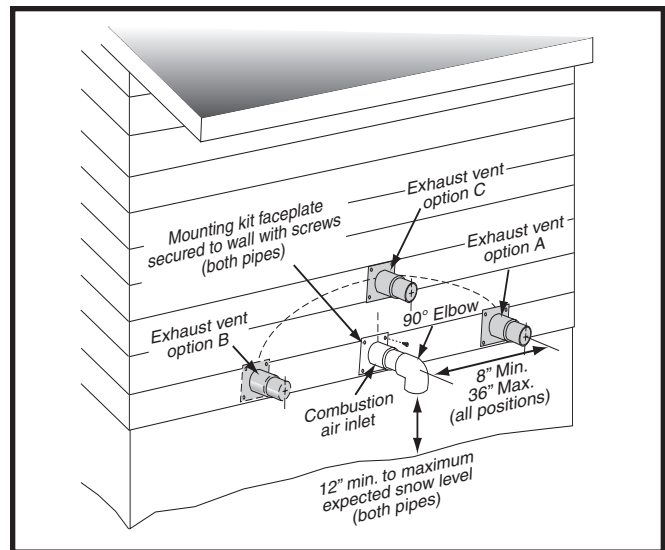
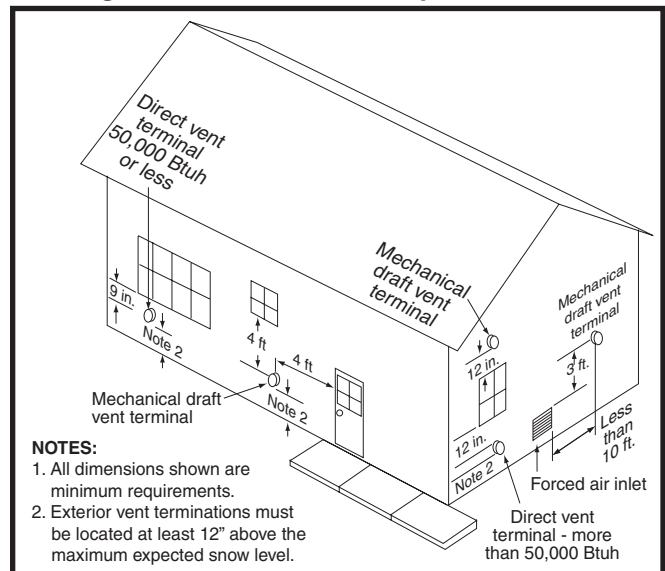
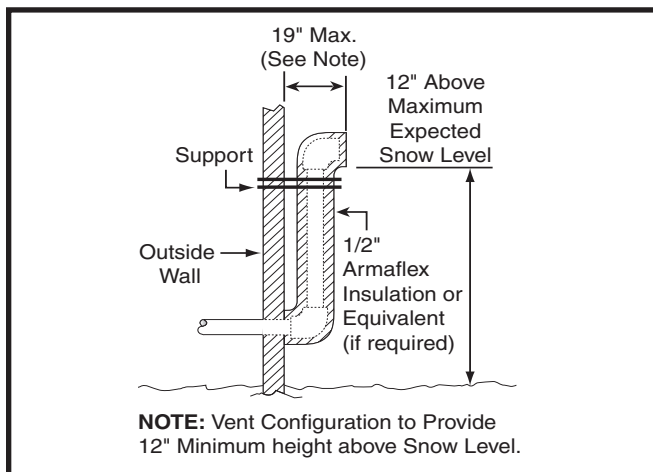

Figure 7. Inlet & Exhaust Pipe Clearances
Figure 8. Vent Locations
Figure 9. Alternate Horizontal Vent Installation
- Vent and combustion air intake terminations shall be installed as shown in Figure 7 & Figure 8 and in accordance with these instructions:
- All minimum clearances must be maintained to protect building materials from degradation by moisture content in flue gases. When wall venting on surfaces that could be affected by this moisture, it is recommended that a corrosion resistant shield be used behind the vent terminal. Adequately seal or caulk all joints, cracks, and seams around the vent terminal. See Figure 7.
- When the vent pipe must exit an exterior wall close to the grade or expected snow level where it is not possible to obtain clearances shown in Figure 7, a riser may be provided as shown in Figure 9 (page 12). Insulation is required to prevent freezing of this section of pipe. See Table 4 (page 15) for vent freezing protection.